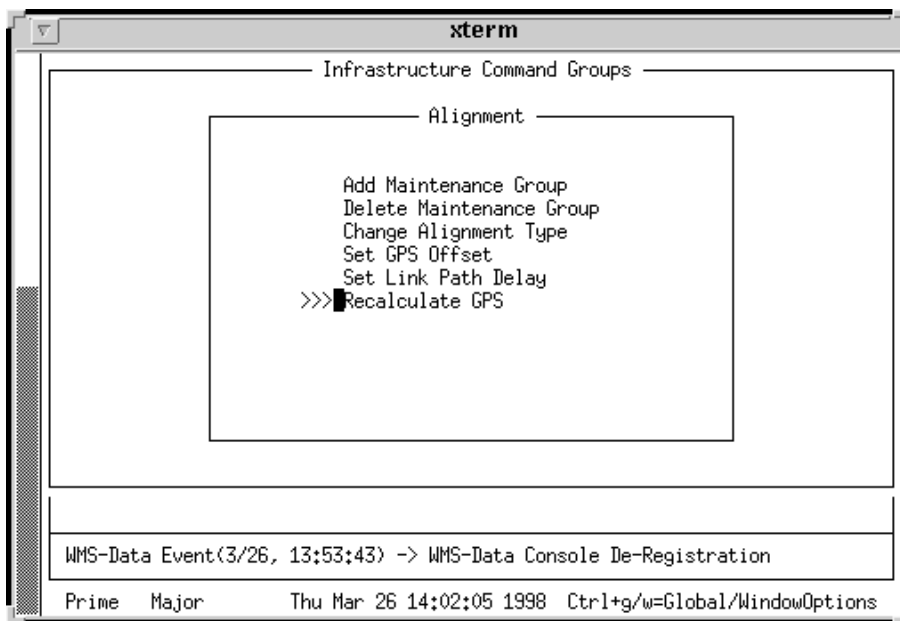

Figure 3-12: Alignment Menu—Recalculate GPS
1. From the Alignment menu, use the <tab> to position the cursor to the left of the listing Recalculate GPS and press: <Return> to execute the command (see Figure 3-12).